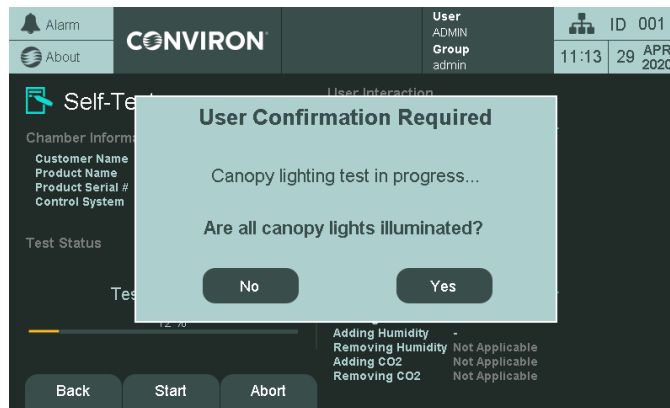

Figure 10-17 Canopy Lights Confirmation Message
4. Upon completing the buzzer test, the light canopy will then be tested. During this test the lights will continuously transition from 25%, 50%, and 100% intensity. Each intensity will be active for a period of five seconds. During this test, visually inspect each bulb to verify if it is cycling thru the three intensities. Using the HMI (Figure 10-17), click Yes or No to indicate whether or not the lights are functioning correctly.